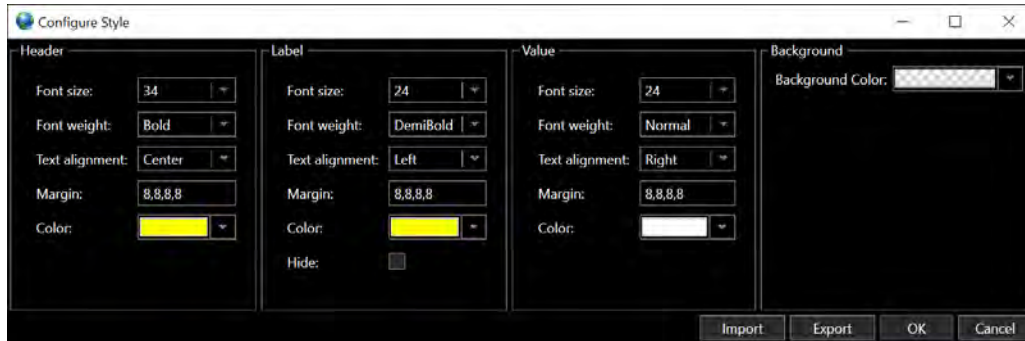

FIGURE 8-6 TABULAR TEXT SETTINGS CONFIGURE STYLE DIALOG
2. Click **Settings** to open the Configure Style dialog. See Figure 8-6